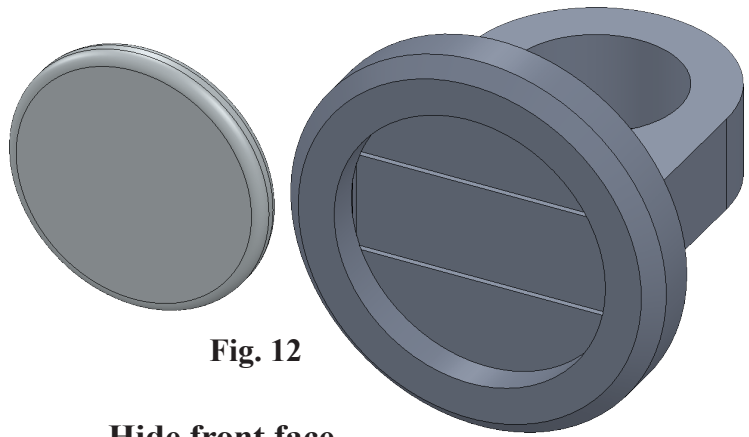

Fig. 12
Step 2. Open **Magnet** and place, **Fig. 12**.